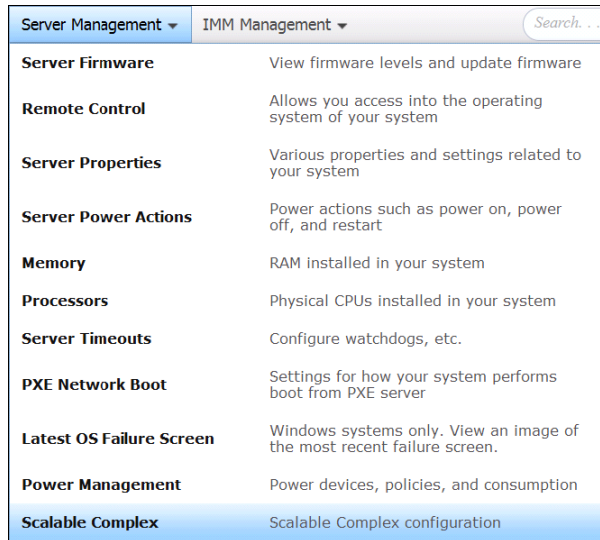

Figure 5-72 Accessing the Scalable Complex window via the IMM2 web interface
2. Access the Scalable Complex window by selecting **Server Management** → **Scalable Complex** from the top menu, as seen in Figure 5-72.